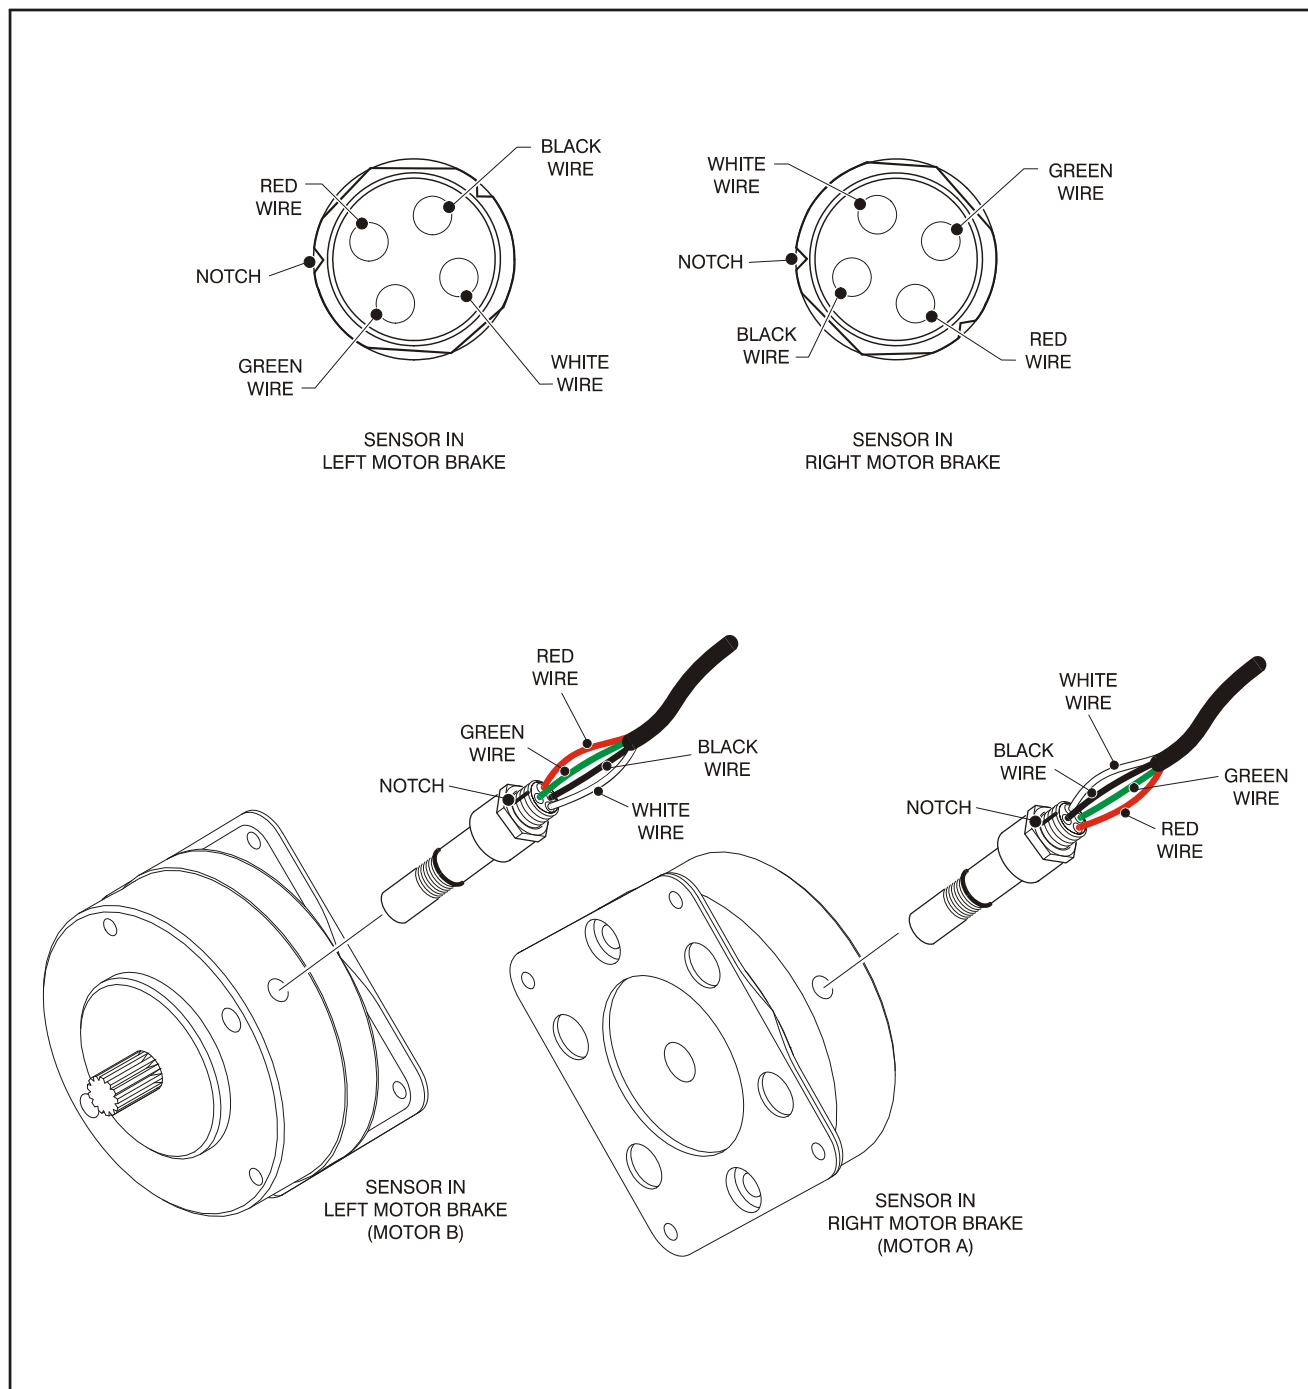

Figure 3-3. Speed Sensor Orientation
3. Back-off 1-2 turns and align the notch with the axis of the brake. Refer to Figure 3-3., Speed Sensor Orientation.